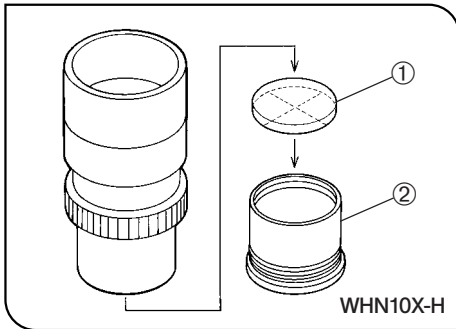

Fig. 15-1
Following Fig. 15-1, turn the built-in micrometer-mounting frame ② counterclockwise to remove it from the eyepiece and place a micrometer disk ① into the mounting frame. The engraving on the eyepiece micrometer disk should face downward in the micrometer-mounting frame.